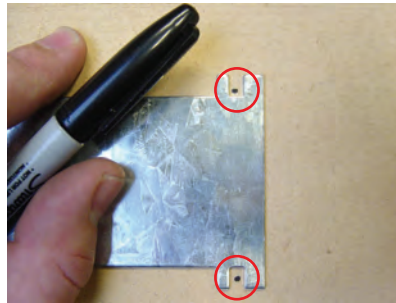

figure 1
- To mount wiper motor, drill 4 - 5/32" holes. (fig. 1)